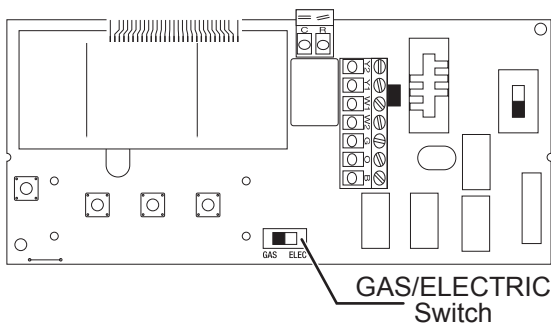

Figure 6
15. Set the GAS/ELEC switch to either GAS for a gas/oil heating system or ELEC for an electric heating system (Figure 6).